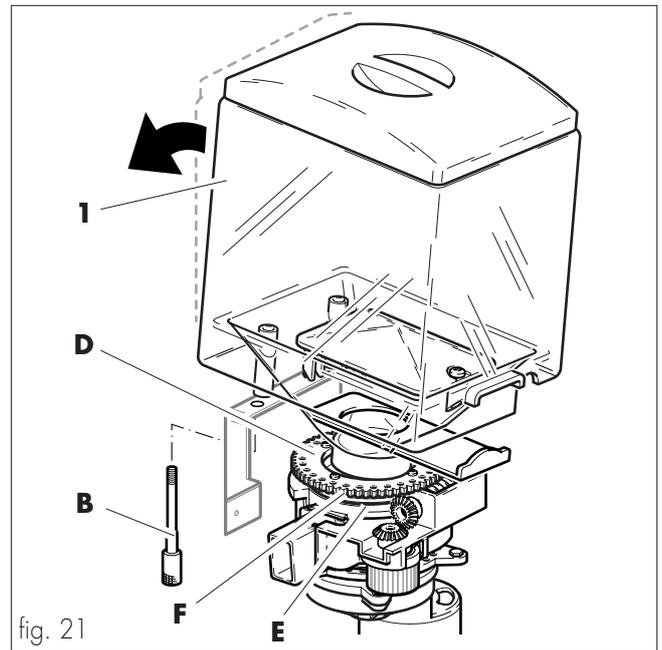

fig. 21
- Reposition the coffee hopper (ref. **1**, fig. 21) by first hooking the front part and then rotating it downwards.
*Attention should be paid to the positioning of the gasket (ref. **F**, fig. 21) which must fit properly in the geared wheel (ref. **D**, fig. 21) and the ring nut (ref. **E**, fig. 21).*
- Secure the hopper (ref. **7**, fig. 21) by hand-tightening the screws (ref. **B**, fig. 21).